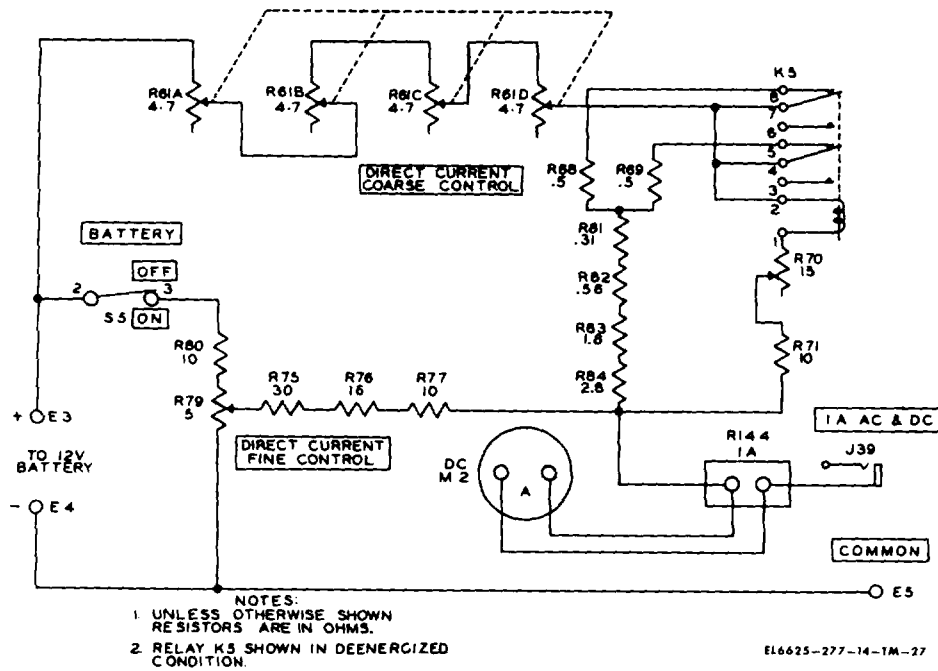

Figure 5-15. One-ampere dc test circuit, simplified schematic diagram.
c. *One-Ampere Dc Test Circuit (fig. 5-15).* For the 1-ampere dc test circuit, there are two networks for regulating the supply of current to the meter under test. The DIRECT CURRENT COARSE CONTROL consists of resistors R61B, R61C, R61D, R65, R69, R70, RS1, R82, R83, R84, and variable rheostat R70; and the DIRECT CURRENT FINE CONTROL consists of